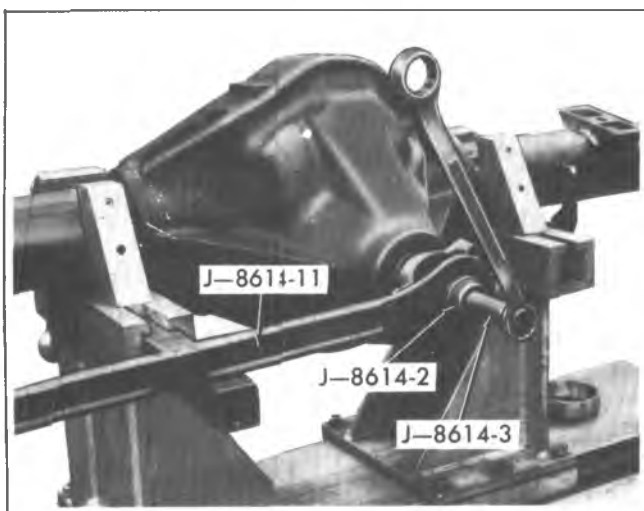

Fig. 6F—Removing Companion Flange
5. Thread end of J-8614-3 into small O.D. end of J-8614-2. Then with J-8614-11 installed as in step 3, insert J-8614-2 into J-8614-11 and turn it 1/8 of a turn to locked position. Remove flange by turning J-8614-3 while holding J-8614-22 as shown in figure 6F.